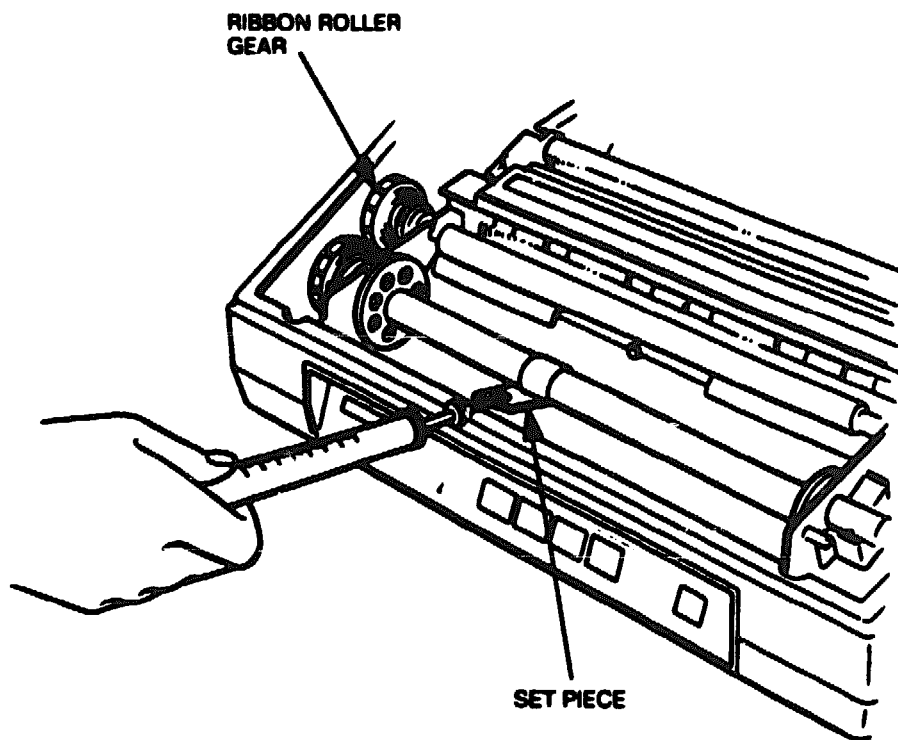

Figure 4-8 Ribbon Take-Up Roller Winding Force Adjustment
3. Wind the set piece two complete turns around the ribbon core. Then hold the ribbon roller gear so it doesn't turn and, as shown in Figure 4-8, pull the set piece as slowly as possible using a tension gauge. Monitor the amount of force (as measured by the tension gauge) required to cause the roller to rotate. The standard force value is 500 to 800 g. If the value obtained by pulling on the set piece is not between 500 and 800 g, proceed as follows.